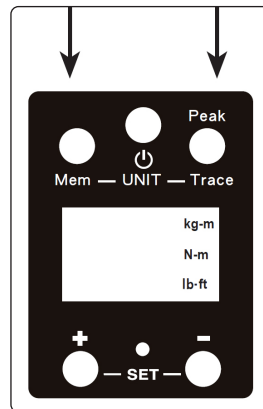

fig.3
- 4.3.1. Press Mem and Peak/Trace buttons together (fig.3) and release to select different units of torque measurement (Nm/lb.in/kg.m) in rotation.